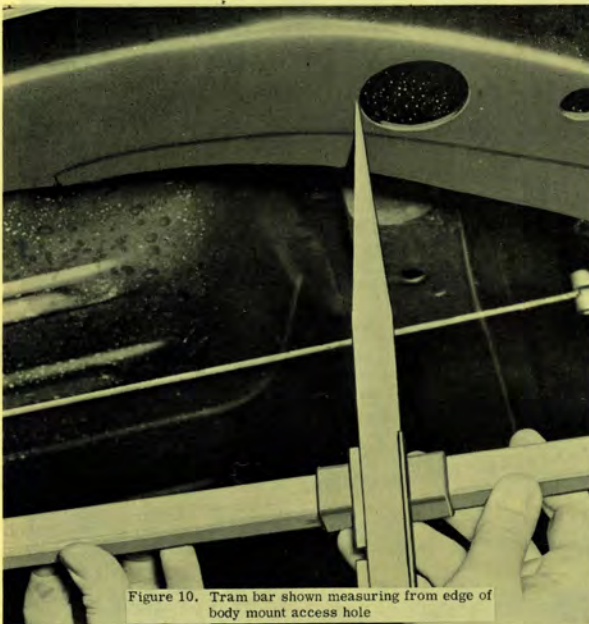

Figure 10. Tram bar shown measuring from edge of body mount access hole
2. All body bolt access holes are accessible from the bottom of the frame on the LeSabre, Wildcat and Electra Series. The edge of these holes serves as an accurate reference point, and it is not necessary to establish reference points as on the Riviera Series. Figure 10 and frame layout 24 show locations of these reference points.